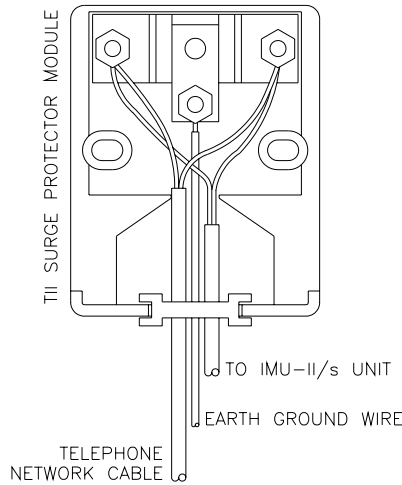

Figure 3-2.
2. Mount the TII Telephone Station Protector at a suitable Non-Hazardous location. Internal wiring of the station protector is illustrated in Figure 3-2.